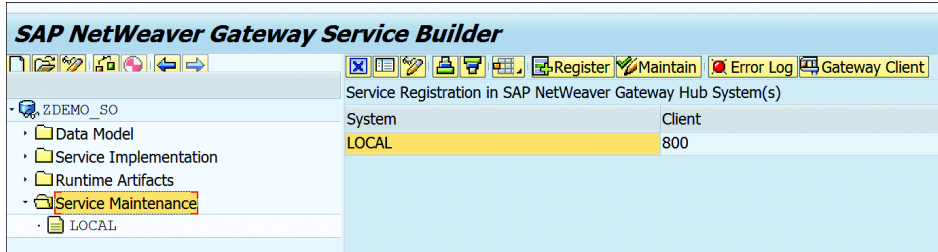

Figure 19.113 Service Registration
1. To register and activate the service, first double-click the SERVICE MAINTENANCE folder and click the REGISTER button, as shown in Figure 19.113.